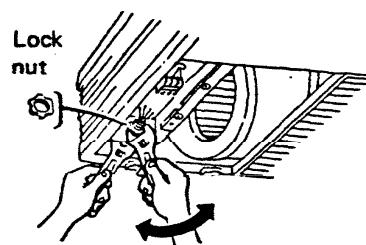

Fig. 16
e) Secure the conduit connector to the electrical component box with a lock nut. Fig. 16